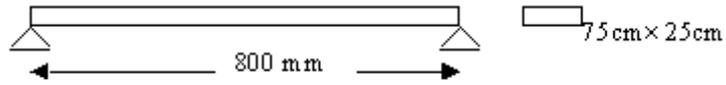

Figure 6
6. Determine the natural frequencies of a simply supported beam of length 800 mm with the cross sectional area of 75 cm X 25 cm as shown in the figure 6. Take E= 200 Gpa and density of 7850 kg/m³. [16]